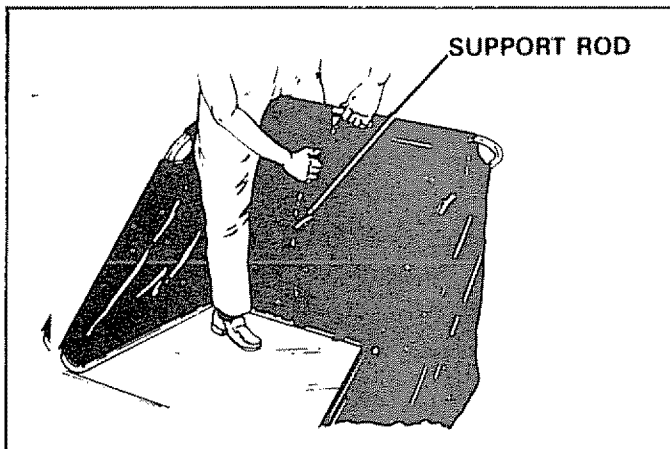

FIGURE 19
- Assemble the two hopper support rods as shown in figures 19 and 20. Place top end of rod into hole in upper tube and bend rod outwards and snap bottom end of rod into hole in bottom tube. **NOTE: Rods are spring steel and require bending or bowing as shown. Do not over bend and lose bag support tension.**